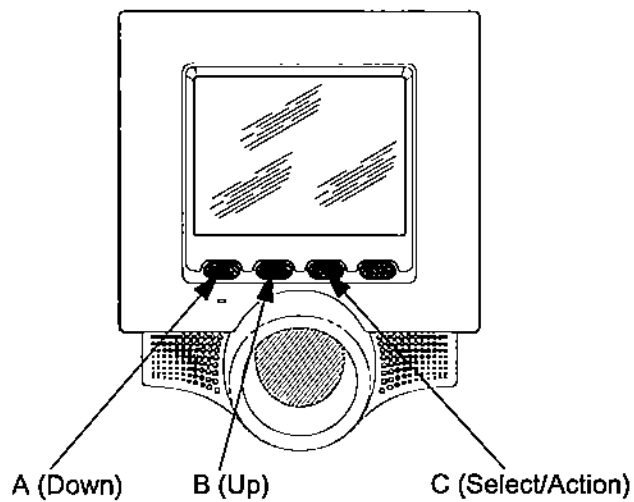

Figure F-1. Button Functions
2. Enter IPL mode. If the MK2000 is not in the IPL main menu, power up the MK2000 while holding the A button (Down) see Figure F-1 on page F-4 to enter the *IPL* main menu. The IPL main menu is the first menu displayed.